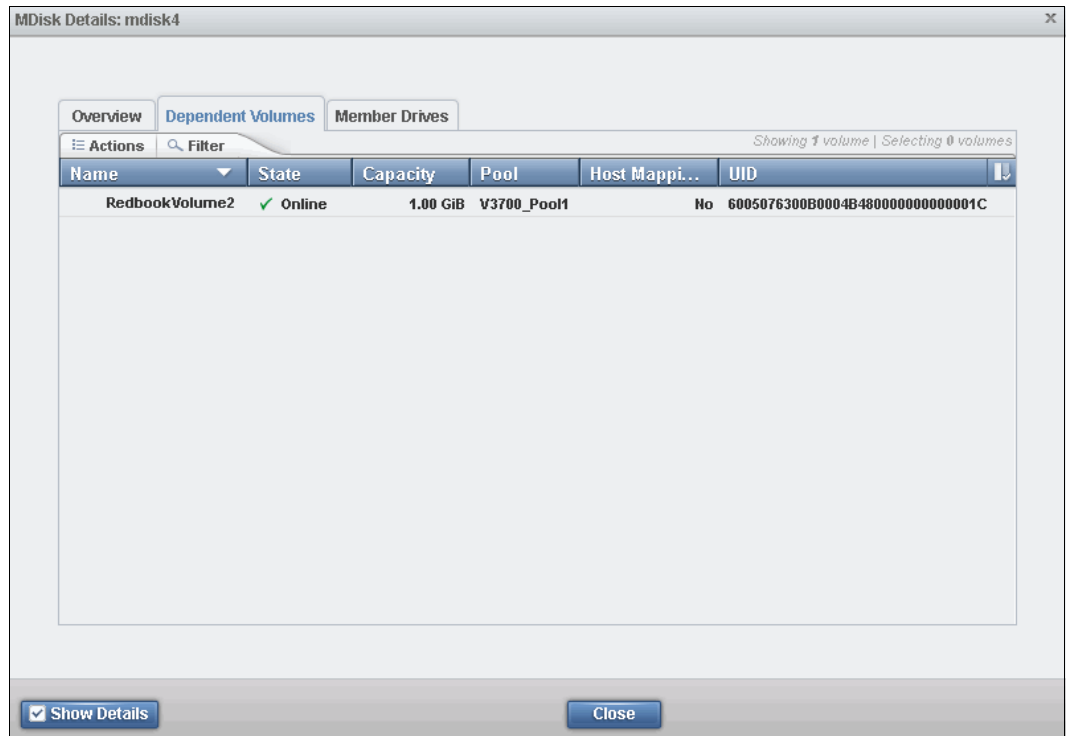

Figure 7-55 MDisk dependent volumes
- ii. The Dependent Volumes tab (as shown in Figure 7-55) lists all of the volumes that use extents on this MDisk.